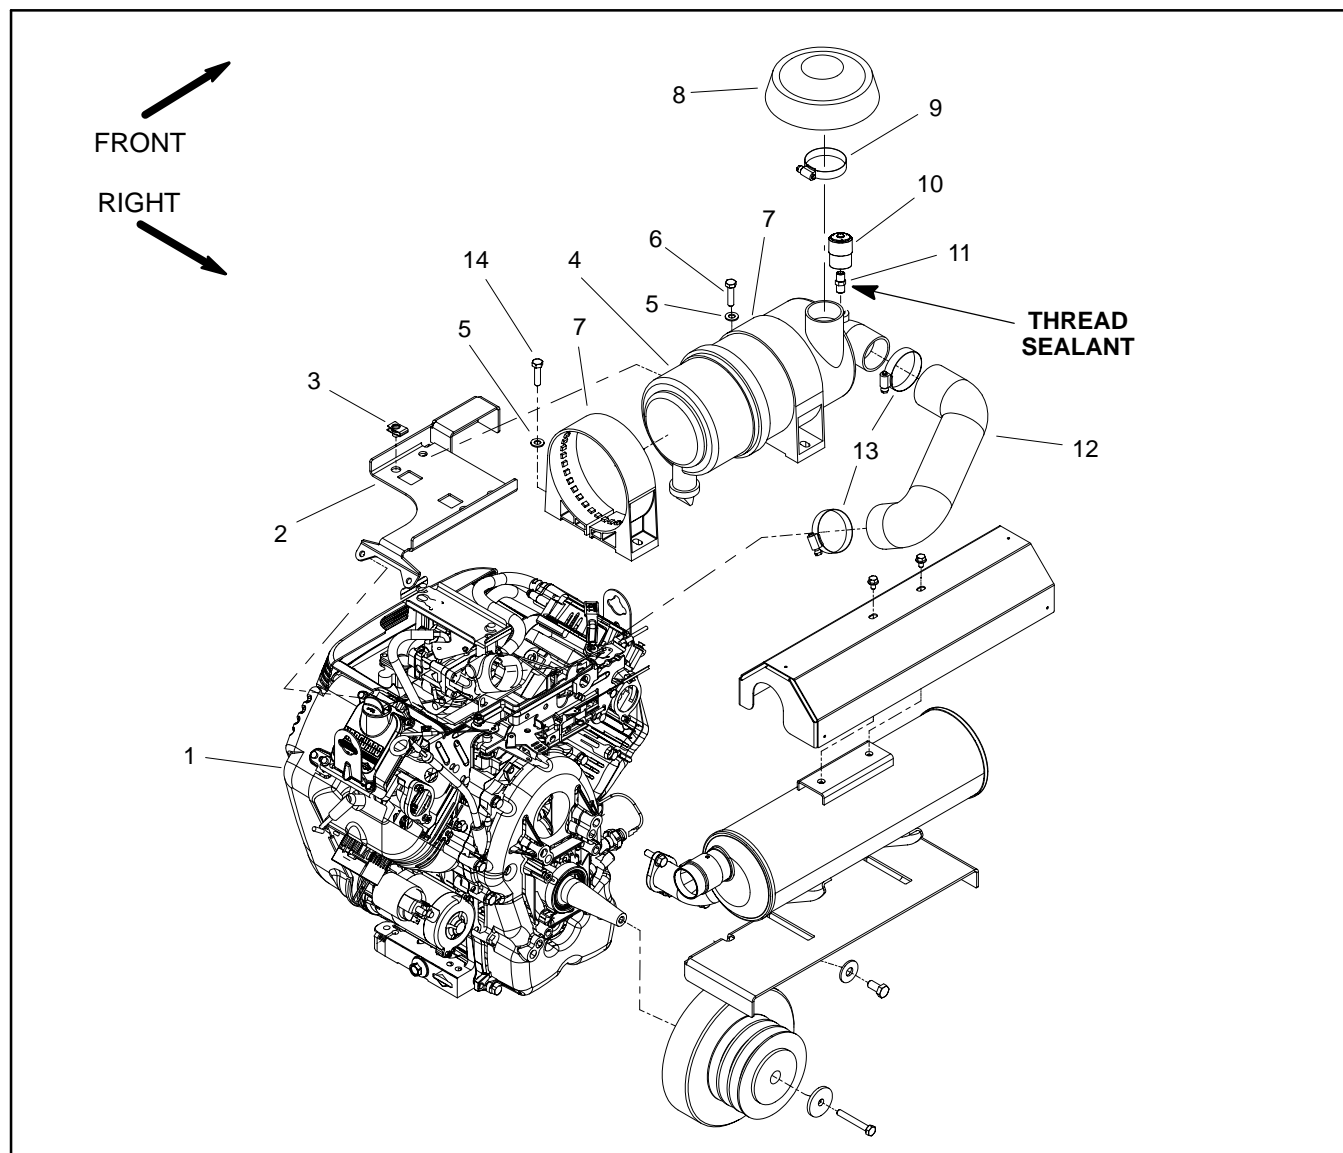

Figure 4
Removal (Fig. 4)
2. Thoroughly clean junction of air intake hose, intake manifold on engine and air cleaner assembly. Loosen hose clamps (item 11) and remove air intake hose from machine.
3. Remove air cleaner components as needed using Figures 4 and 5 as guides.
Installation (Fig. 4)
1. Assemble all removed air cleaner components using Figures 4 and 5 as guides.
- A. If service indicator (item 8) was removed from air cleaner housing, apply thread sealant to nipple threads before installing indicator.
2. Install air intake hose to intake manifold on engine and air cleaner assembly. Secure intake hose with hose clamps (item 11).